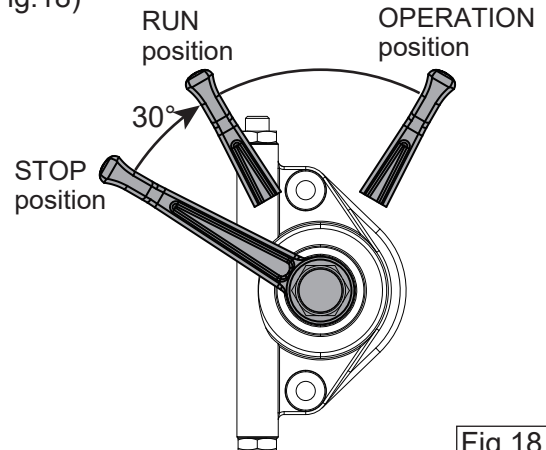

Fig.18
6. Move the throttle lever to the RUN position. (Fig.18)